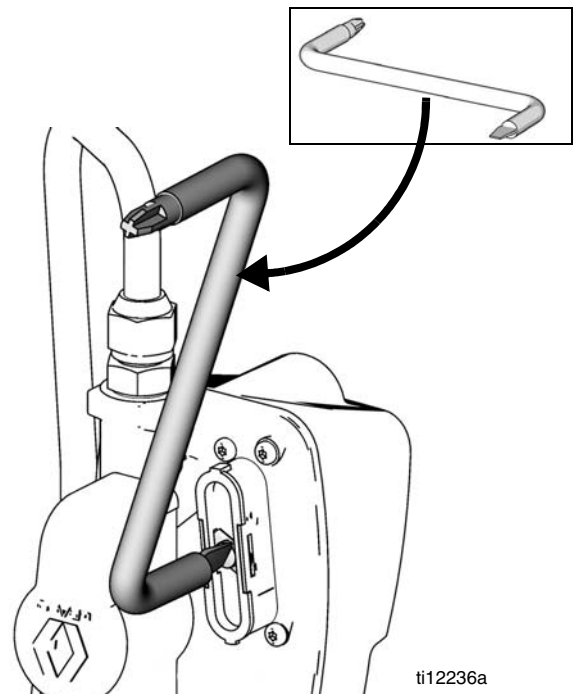

FIG. 21
1. Use an angled screwdriver (as shown in FIG. 21) or a thin coin to turn cover screw clockwise approximately 1/4 turn. This will sufficiently loosen the screw that is securing battery compartment cover to remove cover. (You do not need to completely remove screw; just loosen it enough to release cover.)